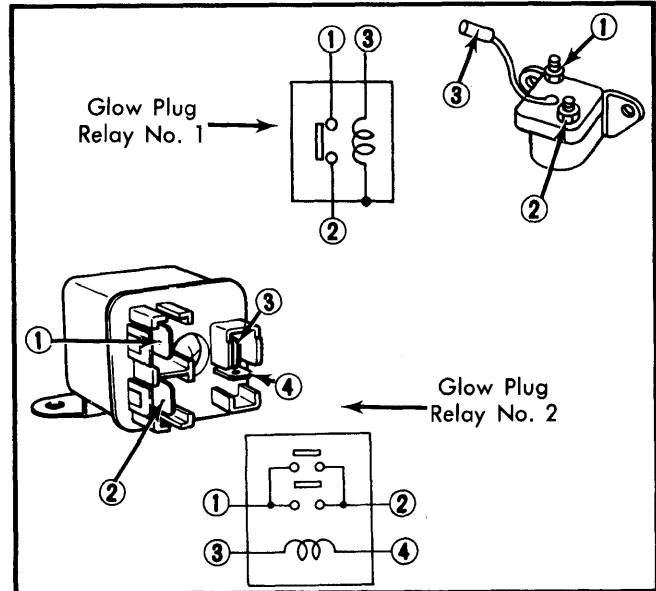

Fig. 6 Glow Plug Relay Test Points
5) If voltage is present at terminal, check glow plug relay No. 1. Replace if needed. If relay is good, check glow plug relay No. 2. Replace if needed. If relay No. 2 is good, replace glow plug control unit. See Fig. 6.
6) If no voltage is present at terminal after 60 seconds, check glow plug relay No. 1 for activation. It should activate immediately when key is turned "ON". If not, check as in Fig. 6. Replace if faulty. Replace glow plug control unit if relay is good.
7) If relay No. 1 activates in step 6), check to see if relay No. 2 activates as well. If not, check as in Fig. 6 and replace if faulty. If good, replace glow plug control unit. If relay does activate, measure glow plug resistance. If continuity does not exist, replace glow plug. If it does, check wiring and connections at connecting plate. Replace glow plug control unit if connecting plate is good.